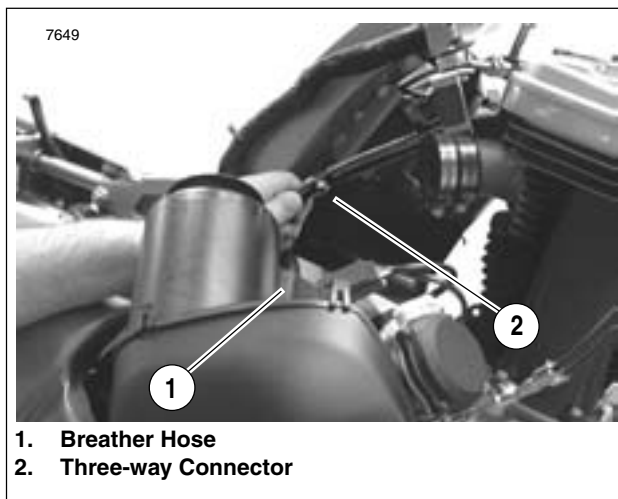

Figure 3-35. Crankcase Breather Hose
- c. See Figure 3-35. Connect crankcase breather hose to three-way connector.